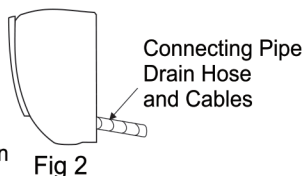

Fig 2
- **Vertically** from the back (Fig 2)